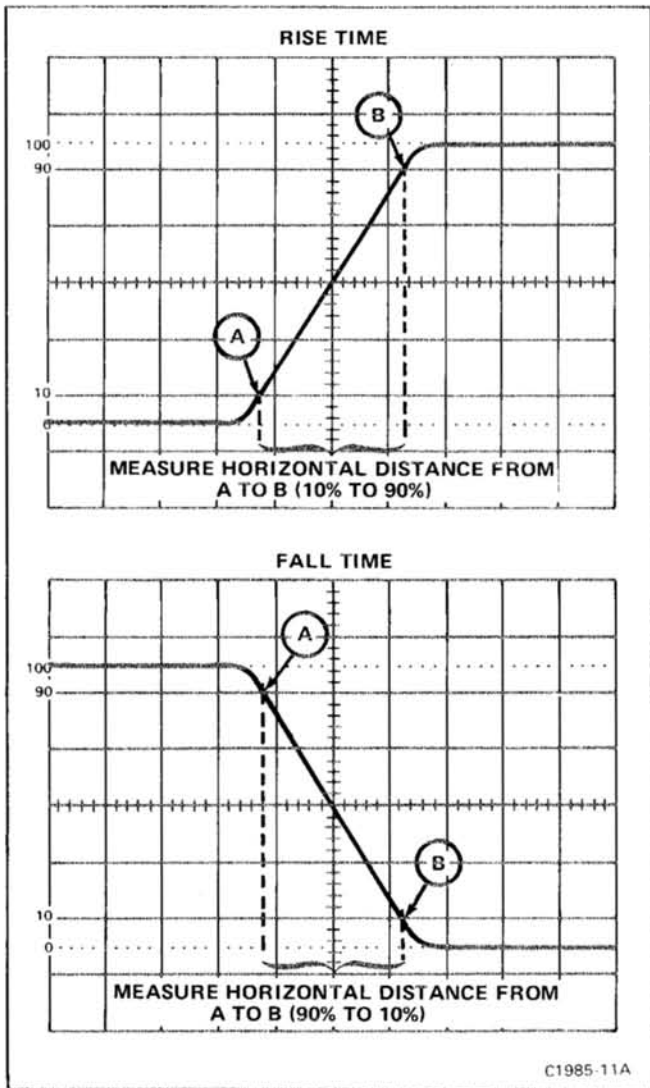

Figure 1-8. Measuring the rise time and fall time of a displayed waveform.
6. Set the TIME/DIV switch and POSITION control to display the rising or falling portion of the waveform within the center 8 graticule divisions as shown in Figure 1-8 (see General Operating Information in this section for discussion of timing measurement accuracy).
7. Determine rise time or fall time by measuring the horizontal distance in divisions between the point on the rising or falling portion of the waveform that is 10% and the point that is 90% of the total display amplitude (see Fig. 1-8).
Example: Assume that the horizontal distance from the 10 to 90% points is 2.5 divisions and the TIME/DIV switch setting is .1  $\mu$ s (see Fig. 1-8).